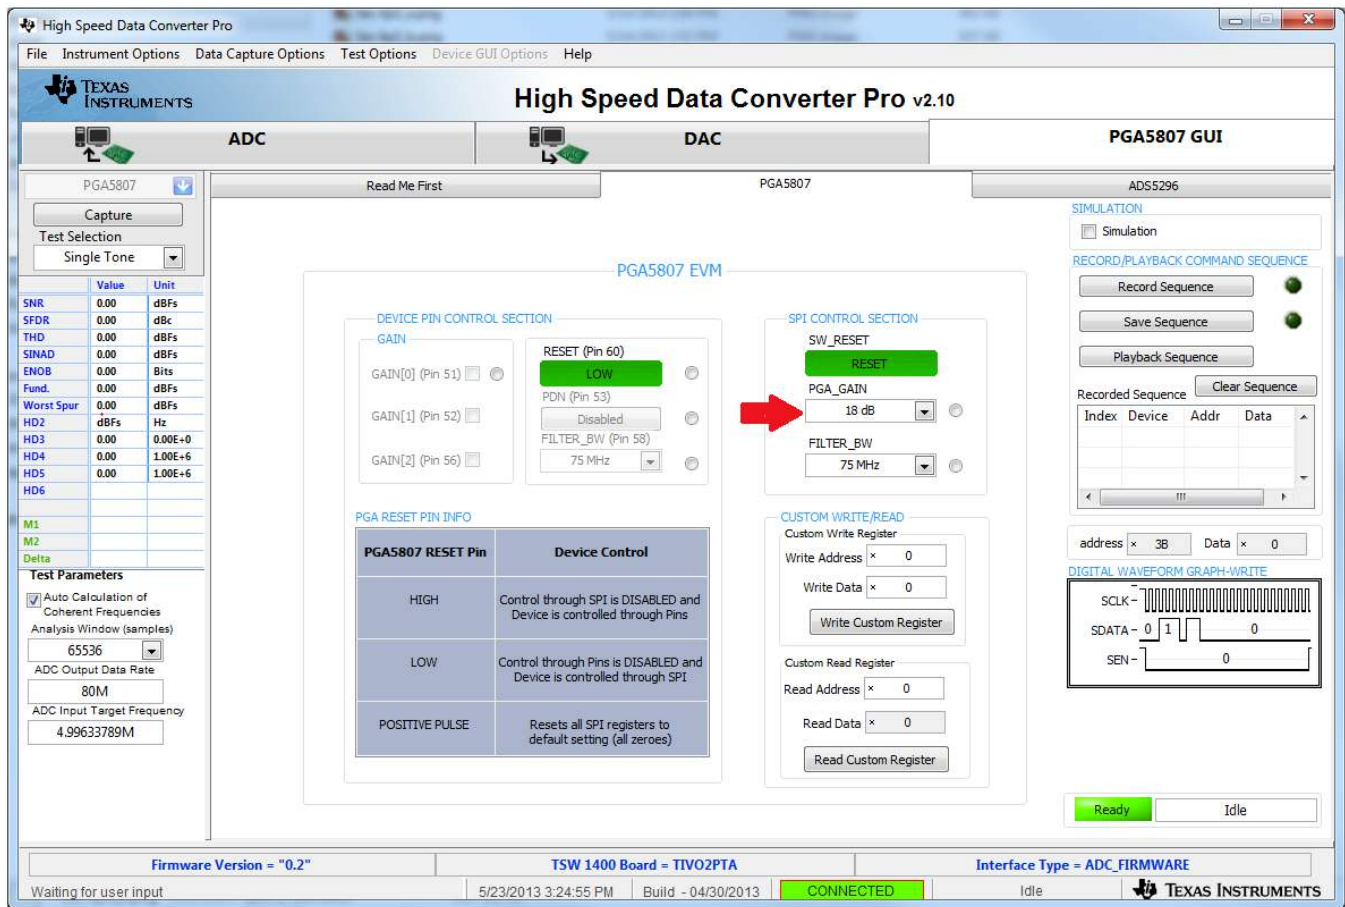

Figure 44. PGA5807 GUI Setup for PGA5807+ADS5296 1
2. Click on the PGA5807 tab as shown in Figure 44.